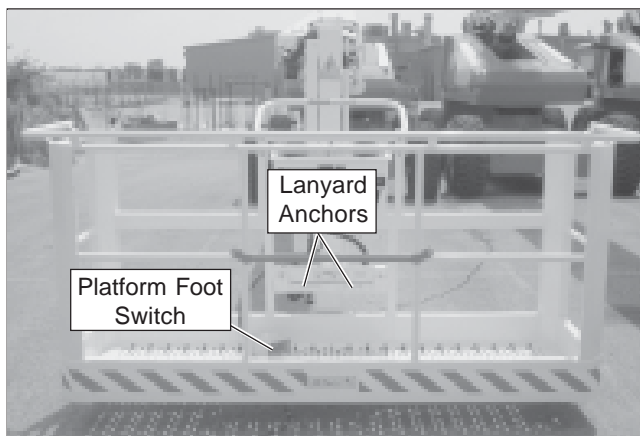

Figure 8.4 – Platform
1. Step down on the platform foot switch (refer to Figure 8.4). This switch must be held down to operate the upper controls.